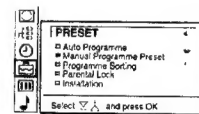

Fig. 6
- Select the symbol \square for «Preset» with Δ or ∇ and press OK. The PRESET menu appears. (See Fig. 6)